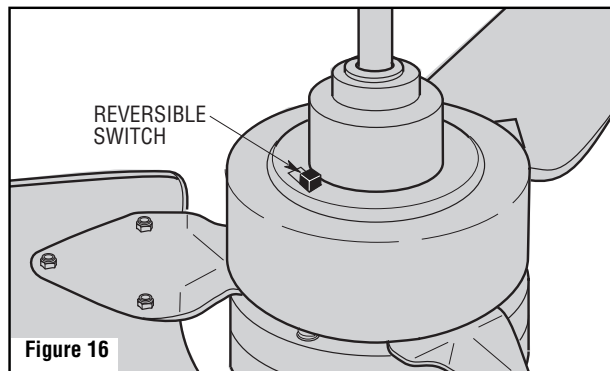

Figure 16
3. All fans are shipped from the factory with the reversing switch positioned to circulate air downward. If airflow is desired in opposite direction, turn your fan OFF and wait for the blades to stop turning, then slide the reversing switch to the opposite position, and turn fan on again (Figure 16).